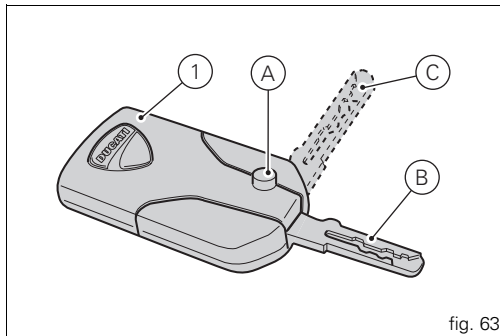

fig. 63
The active key (1, fig. 63) is the one that is normally used: press button (A, fig. 63) to fully open the metal part, i.e. position (B, fig. 63). Holding depressed button (A, fig. 63) you can move the metal part and set it to the middle position (C, fig. 63); once in place, release button to lock.